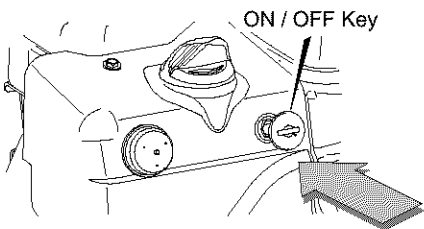

Figure 24
5. Remove the ON/OFF keys from the plastic bag. Insert one of the ON/OFF keys into the key slot (see Figure 24). Make sure the key snaps into place. **Do not turn the ON/OFF key.** Keep the second ON/OFF key in a safe place.